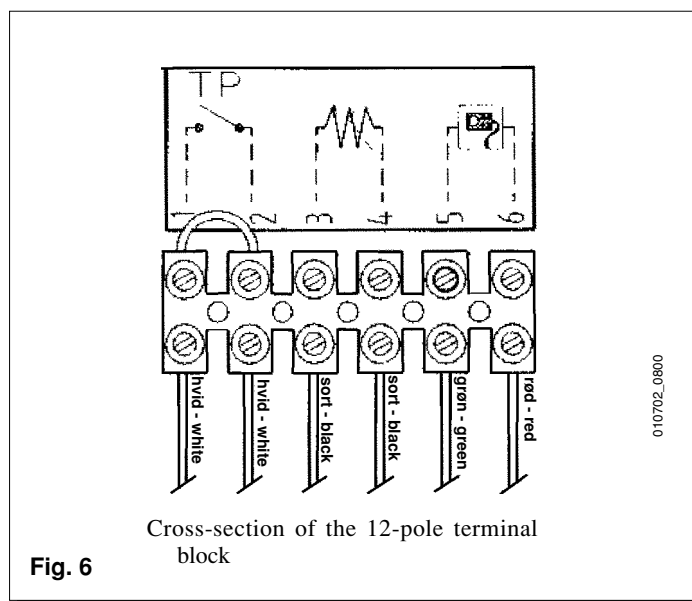

Fig. 6
- Tilslutning af udeføler til fjernbetjening og af termostat til gulvvarme foretages til klemrækken. Denne befinder sig på låget af kedelstyringens instrumentpanel (fig. 6).
- The outside probe for remote control and the thermostat for floor heating are connected to the terminal block. This is located on the cover of the instrument panel of the boiler controls (fig. 6).
- **Remote control (accessory):** Connect the cables of the remote control to terminals 5 and 6 (fig. 6). Terminal 5 must be connected to